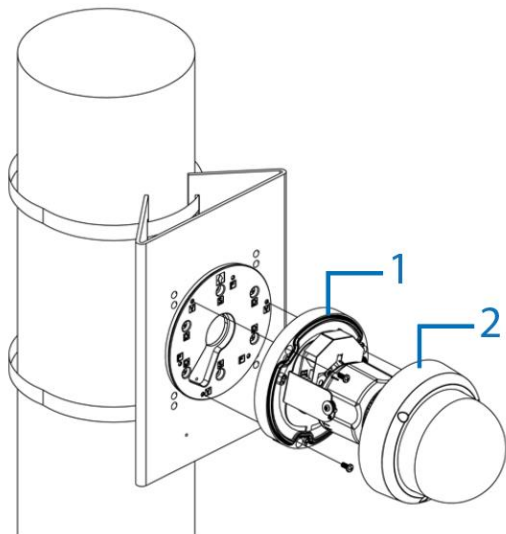

Figure 7
- F. Hold the camera base (1) (Figure 7) up to the adaptor plate and align the three holes on the camera base with the three 'V' holes on the adaptor plate.
- H. Insert the three dome cover screws into the three holes on the dome cover (2) (Figure 7) and securely attach it to the camera base.